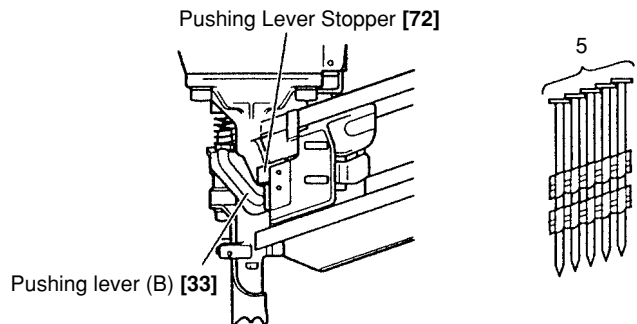

Fig. 3
The Model NR 90AC2 is equipped with a pushing lever stopper as an idling protector. The Pushing Lever Stopper [72] is placed over Pushing Lever (B) [33] to prevent Pushing Lever (B) [33] from being pushed up when no nail is loaded in the magazine or the number of nails remained in the magazine is five or less (depending on the types of nails). (See Fig. 3.)